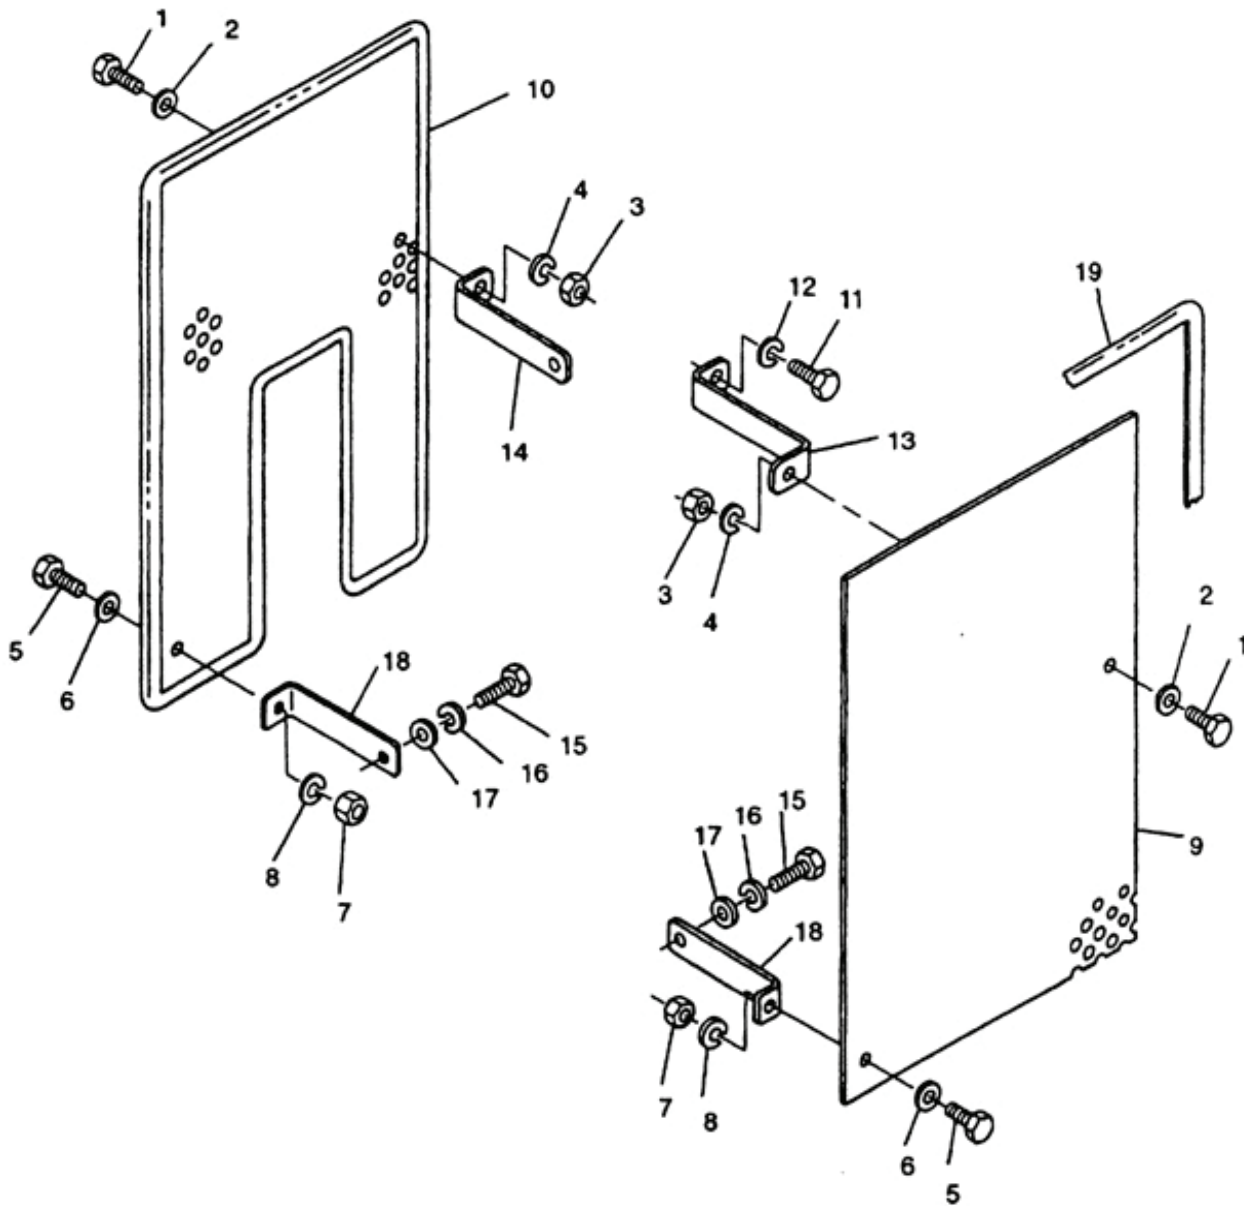

Figure 2-25. Fan Guards – MEP-804A/MEP-814A.
- c. Remove bolts (1 and 5, Figure 2-25), washers (2 and 6), nuts (3 and 7), and lock washers (4 and 8) securing fans guards (9 and 10). Discard lock washers (4 and 8).
- d. Remove belts (11 and 15), lock washers (12 and 16), and washers (17) securing brackets (13, 14, and 18), if necessary. Discard lock washers (12 and 16).
- a. If removed, install bolts (11 and 15, Figure 2-25), new lock washers (12 and 16), and washers (17) securing brackets (13, 14, and 18).